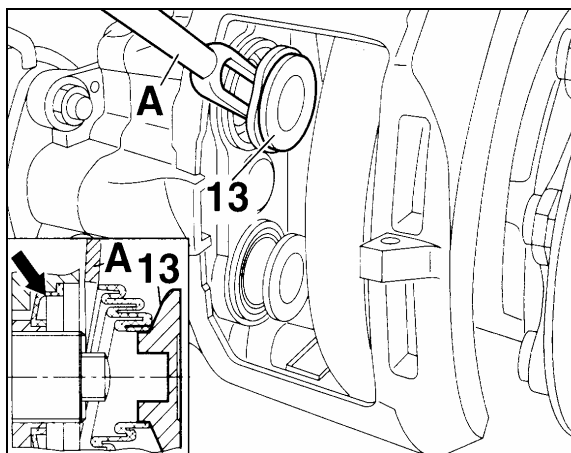

FIGURE 35: RUBBER BOOTS
- The rubber boots (13, Fig. 35) should show no damage, check the attachment.